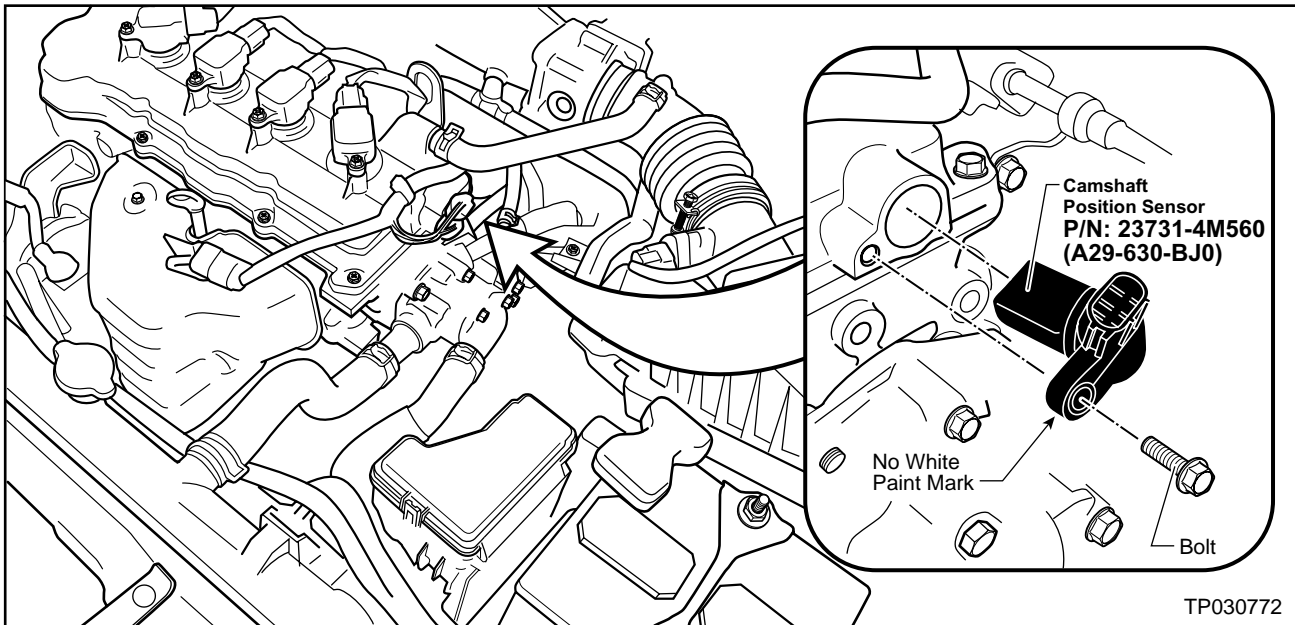

Figure 3
3. Locate the **Camshaft Position Sensor** (see Figure 3).